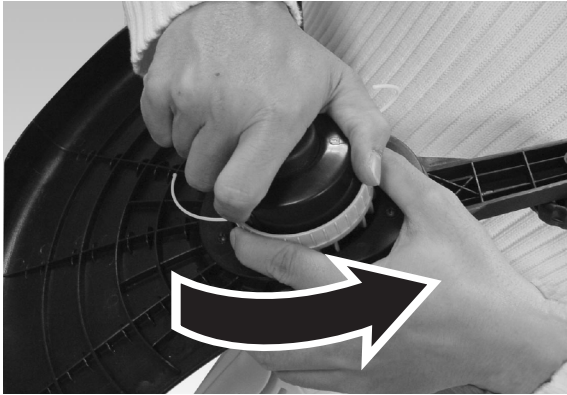
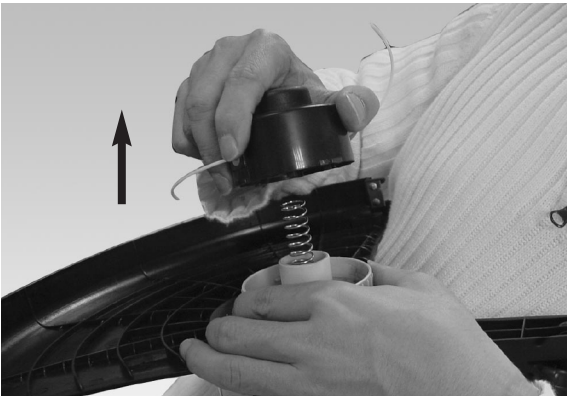

Fig. 18
Fig. 19
2. Remove the spool assembly from the trimmer. To do so, hold the outer ribbed part of the assembly with one hand, while pushing down and turning the spool head with the other to unlock it. (Fig. 18 & Fig. 19) The spool carrier and spool will now disassemble easily.